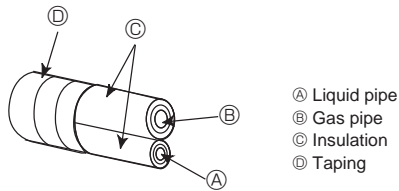
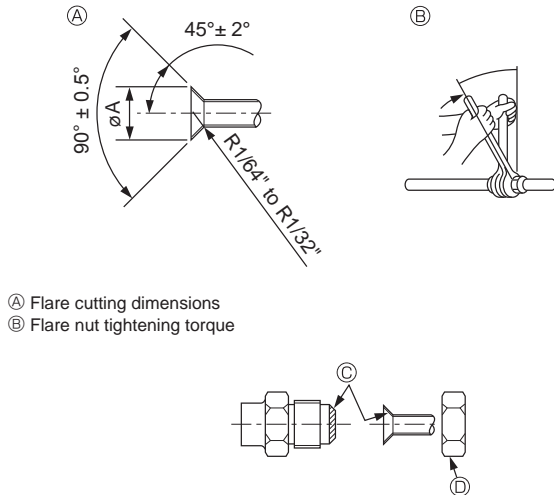

Fig. 4-2
Fig. 4-3
Ⓐ (Fig. 4-3)
4.3. Connecting pipes (Fig. 4-2) (Fig. 4-3)
[Fig. 4-3]